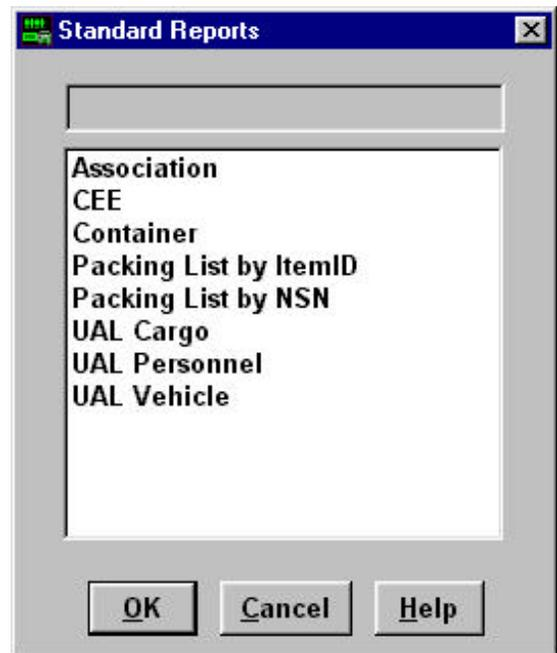

Figure 1.
1. **STANDARD REPORTS.** Once MDSS II is open, you need to ensure that the plan that you want the information from is activated. To open a standard report, select from the drop down menu **Tools, Reports,** and **Standard.** A box will appear with a selection of standard reports available. (see Figure 1.)